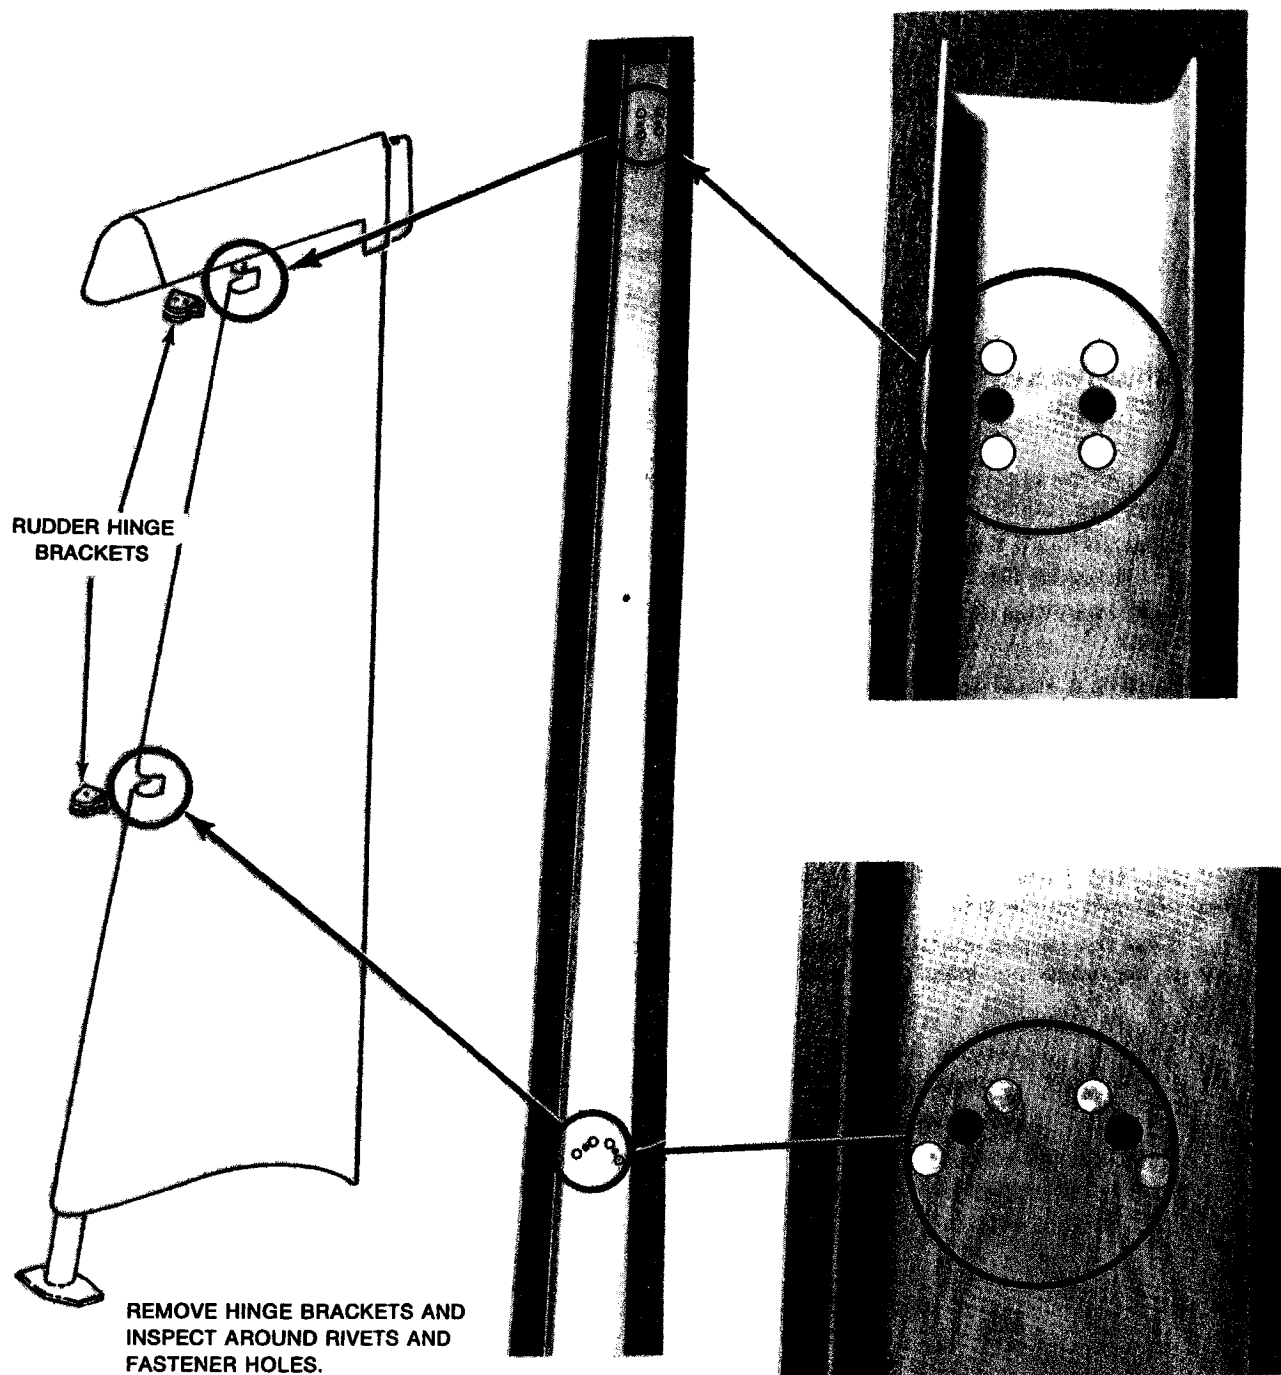

Figure 1
2. Refer to Figure 1 and remove the two hinge brackets from the rudder forward spar.